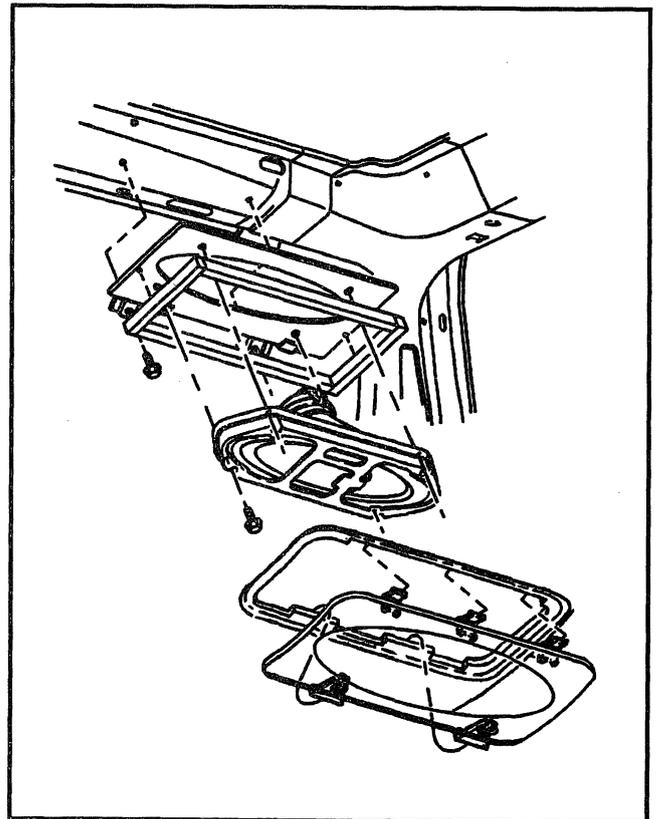

Figure 17—Rear Overhead Speaker Assembly (Suburban and Utility Models)
↔ Remove or Disconnect (Figure 17)
**Install or Connect (Figure 17)**